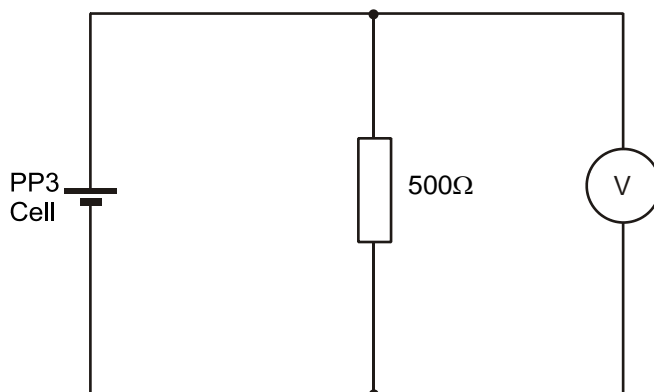

Figure 12
c. Connect the circuit as shown in Figure 12.